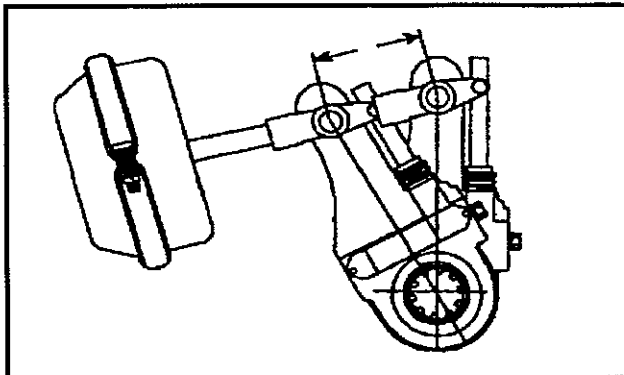

Figure 25—Measure Stroke
4. Measure the power stroke. (See Figure 25—Measure Stroke.) The difference between when the brake is off and when the brake is fully applied. The pressure should be 80 - 90 psi (551.6 to 620.5 kPa. (See Table 3—Chamber Stroke.)